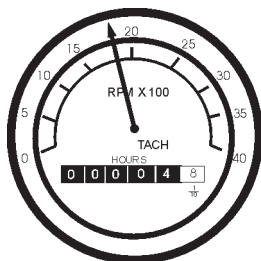

Figure 50. Engine Tachometer
17. The tachometer (Figure 50) will indicate the speed of the engine when the generator is operating. Under normal operating conditions this speed should be approximately 1800 RPM's.